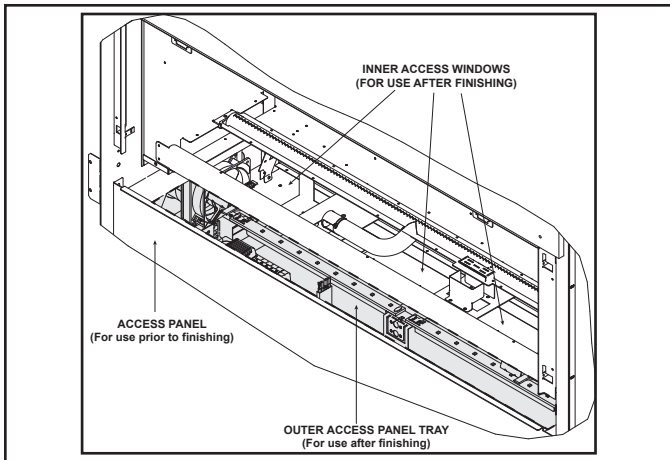
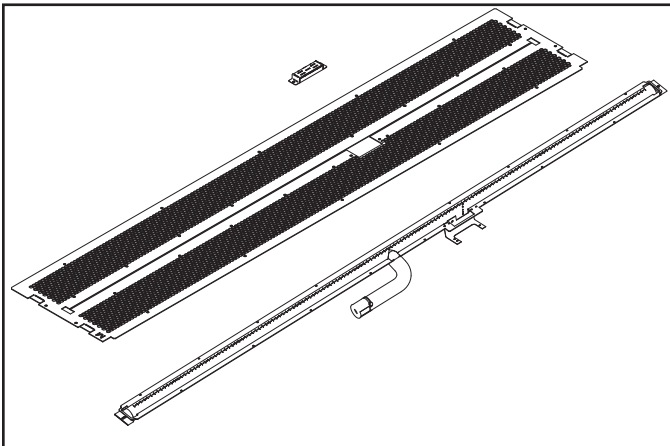

Figure 11.2 Gas and Electrical Access
Figure 11.3. Base Pan with Burner and Pilot Cover
The lower access cover panel is removable if finishing material is not installed. See Figure 11.2.
2. Remove the base pan. It is attached with 14 screws to the interior firebox bottom and with 19 screws to the burner assembly. If your appliance is a model that has the glass rock media, you must also remove the pilot shield cover at this time. See Figure 11.2 and Figure 11.3.
3. Remove the two screws securing the burner to the firebox sides and disengage burner from over orifice. Remove burner. See Figure 11.3. Remove screws from pilot assembly.
4. Remove access panel covers or glass windows, along with gaskets. Gaskets may be fragile. Handle with care. See Figure 11.2.
In the event that the junction box may need to be accessed or installed after finish methods have been applied, access is possible by removing the valve assembly (See Figure 11.2).